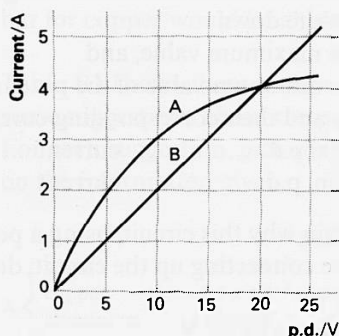

Figure B63
- 11(P)** The graph in figure B63 shows the relationship between the current and the potential difference for two different conductors A and B.
- d Within the range of values shown on the graph in figure B63 will the *lowest* resistance of a *parallel* combination of A and B occur at a high value or at a low value of the potential difference across the combination? Explain your reasoning.